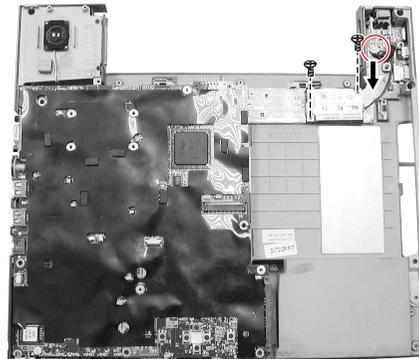

Figure 2-28 Remove the modem card
5. Remove two screws fastening the modem card. disconnect cord from system board. (Figure 2-28)